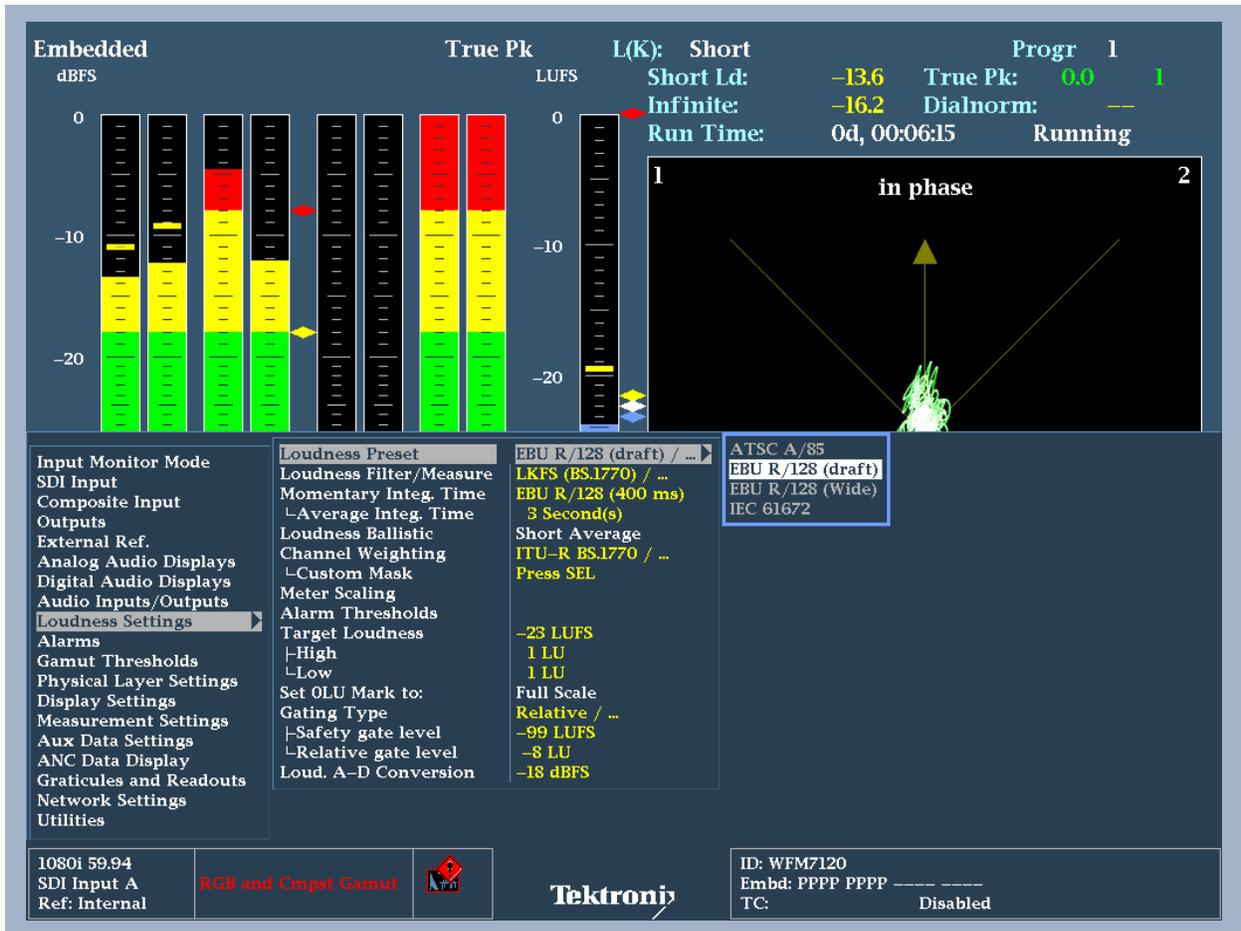

Figure 9. Loudness Setting Configuration menu.
2. Move up and down the menu using the Arrow Keys or General Knob to select the **Loudness Settings** menu (Figure 9).